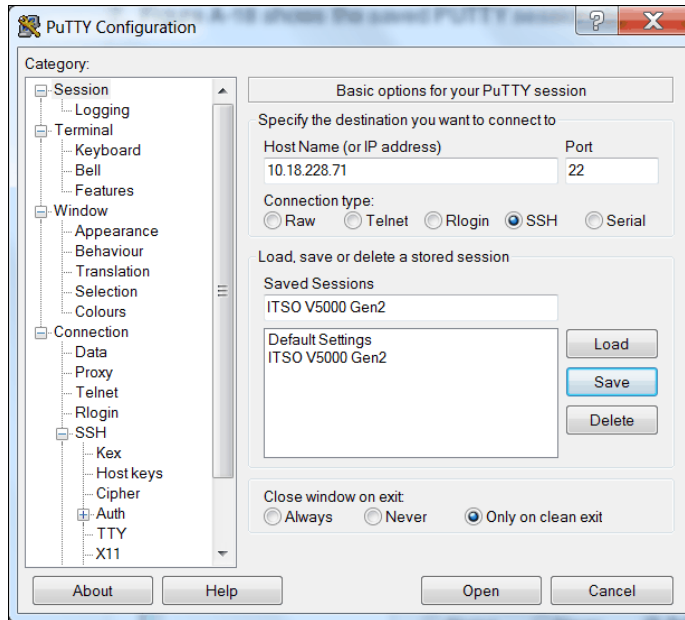

Figure A-19 Saved PUTTY session
8. Figure A-19 shows the saved PUTTY session. Select the new session and click **Open**.